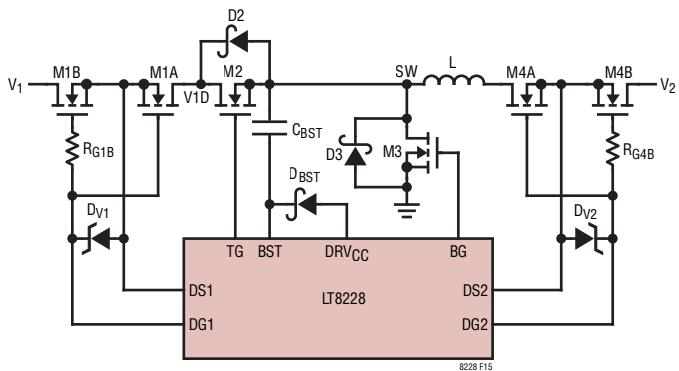

Figure 15. Power MOSFETs and Components Selection
The LT8228 requires six external N-channel MOSFETs as shown in Figure 15: (1) the V_1 protection MOSFETs M1A and M1B, (2) the V_2 protection MOSFETs M4A and M4B, (3) the switching top MOSFET M2 and (4) the switching bottom MOSFET M3. M1B and M4B are optional if no inrush current control or protection against M3 short fault is not required. Important parameters for selecting the